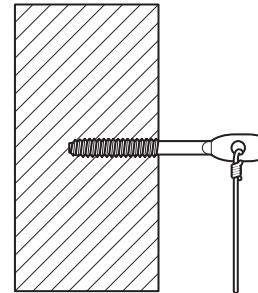

Figure 6 – Suspension Wire Installation
- For each eye lag bolt, insert the suspension wire through the hole in the bolt, loop the end downward, and wrap *at least five turns* around the main suspension wire. See *Figure 6 – Suspension Wire Installation*.